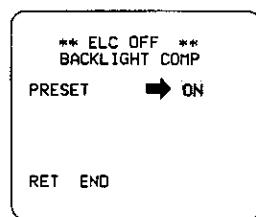

Fig. 50
- Move the cursor to the "PRESET" mode position and select the "ON" mode by using the Left Button (WHT BAL) or Right Button (GAIN UP). The preset mode menu is displayed on the monitor screen as shown in Fig. 50.